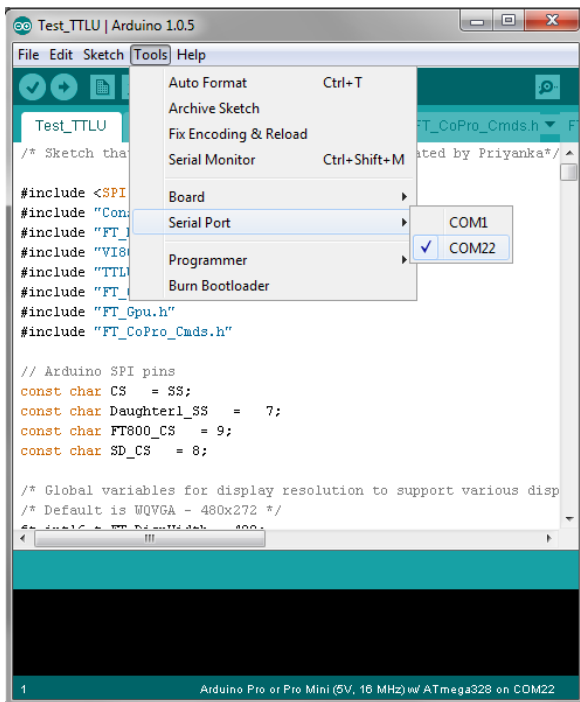

Figure 4.2 Select Serial Port
- Select the Tools->Serial Port->COMxx corresponding to the VM800P as shown in Fig 4.2.